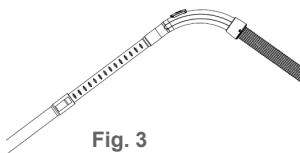

Fig. 3
Connect the suction tube (14) to the curved end of the suction hose (16) (Fig 3).